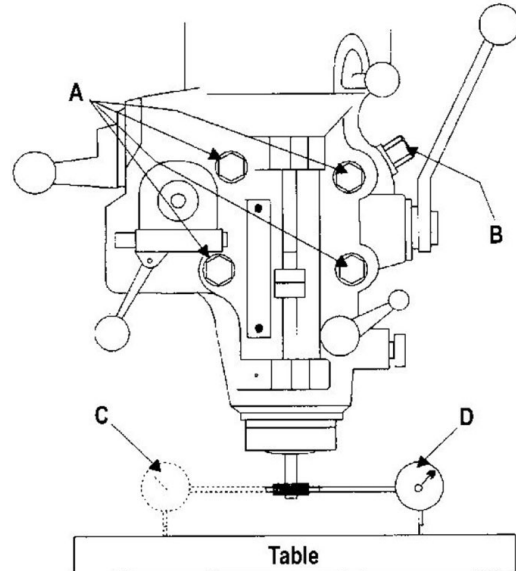

Figure 10: Test perpendicularity
5. Set up a dial indicator in a collet and secure using the draw bar (refer to Figure 10).
- c. Set up a dial indicator in a collet and secure using the draw bar (refer to Figure 10).